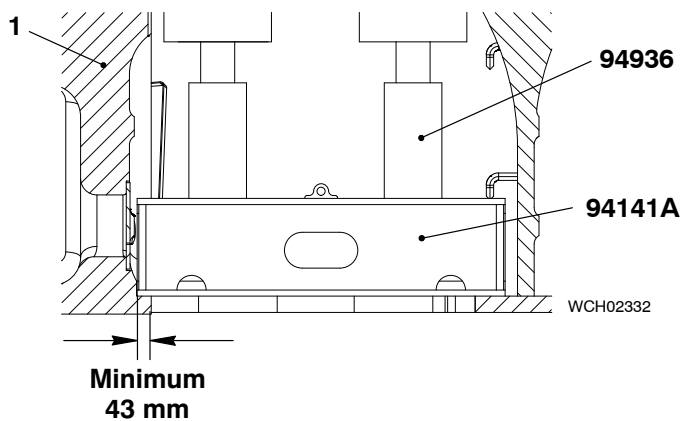

Fig. 12
- 3) Put the bracket (94141A, Fig.12) on the two main bearing girders (1) as shown.